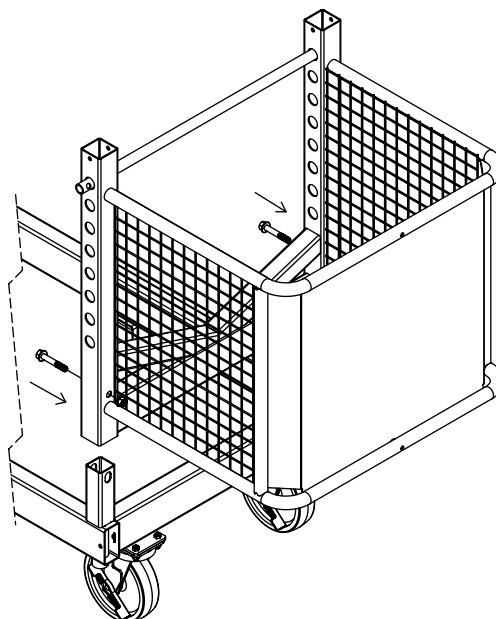

Figure 4C
3. Replace both of the assembly bolts to secure the extension basket to the base. (See Figure 4C).